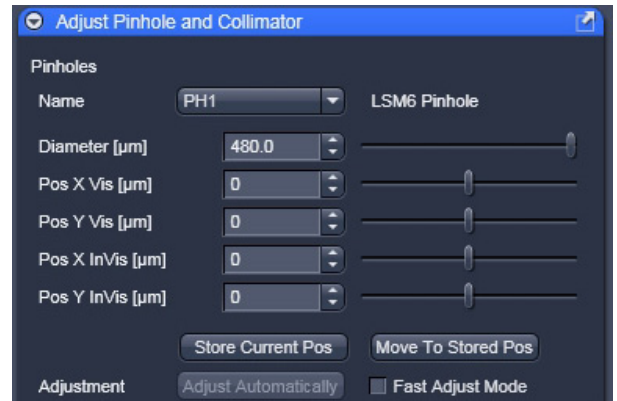

Fig. 157 Manual pinhole adjustment
- Click the LSM **Continuous** action button to start a continuous scan. Optimize the pinhole position in X, Y and Z (Z only for PH1) relative to the PMT using the **Position X [µm]**, **Position Y [µm]** and **Position Z [µm]** sliders to maximum image brightness (see Fig. 157).